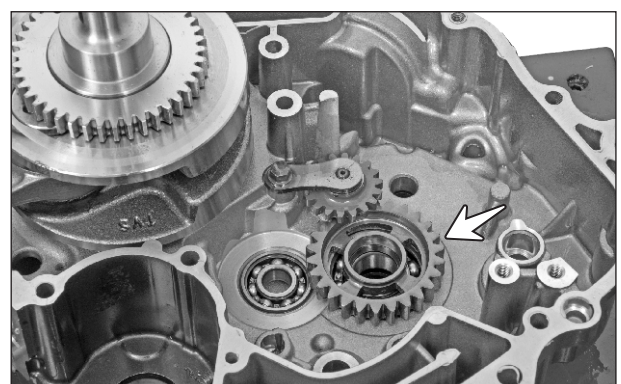

Fig. 3.151
- Take out the gear 2nd driven. (Fig. 3.151)